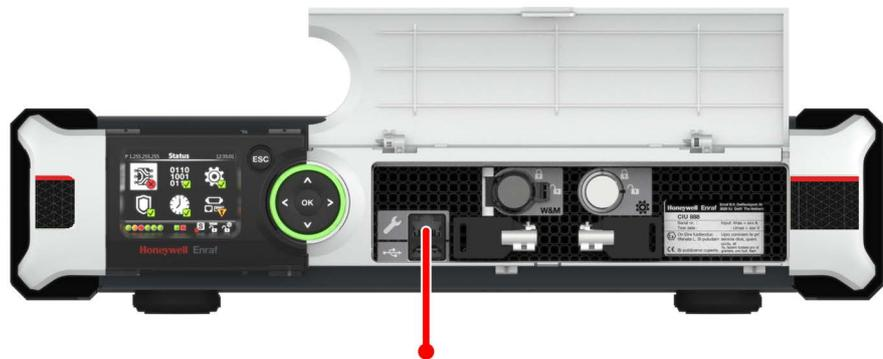

FIGURE 6-1 CIU 888: Service port
- Service port located at the front of the CIU 888 using a Cat. 5 Ethernet cable (see FIGURE 6-1)